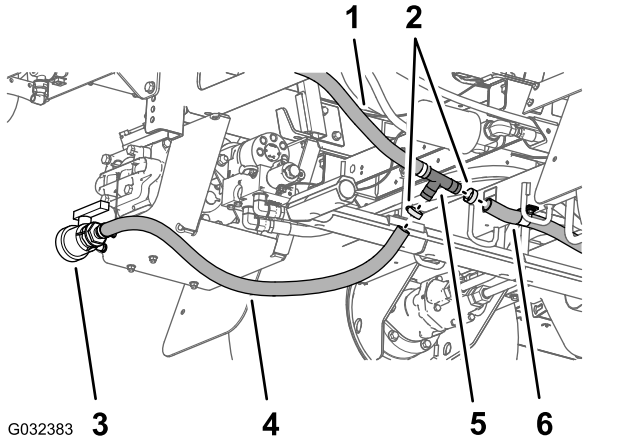

**Figure 41**
1. At the lower end of the upper bypass hose, remove the flange-head bolt (5/16 x 3/4 inch), washer (5/16 inch), and R-clamp that secures the upper bypass hose to the rear-saddle plate of the machine (Figure 40 and Figure 41).
- Remove the 2 hose clamps that secure the upper bypass hose and the lower bypass hose to the 90° barbed fitting (Figure 41).
- Remove the 90° barbed fitting from the hoses (Figure 41).